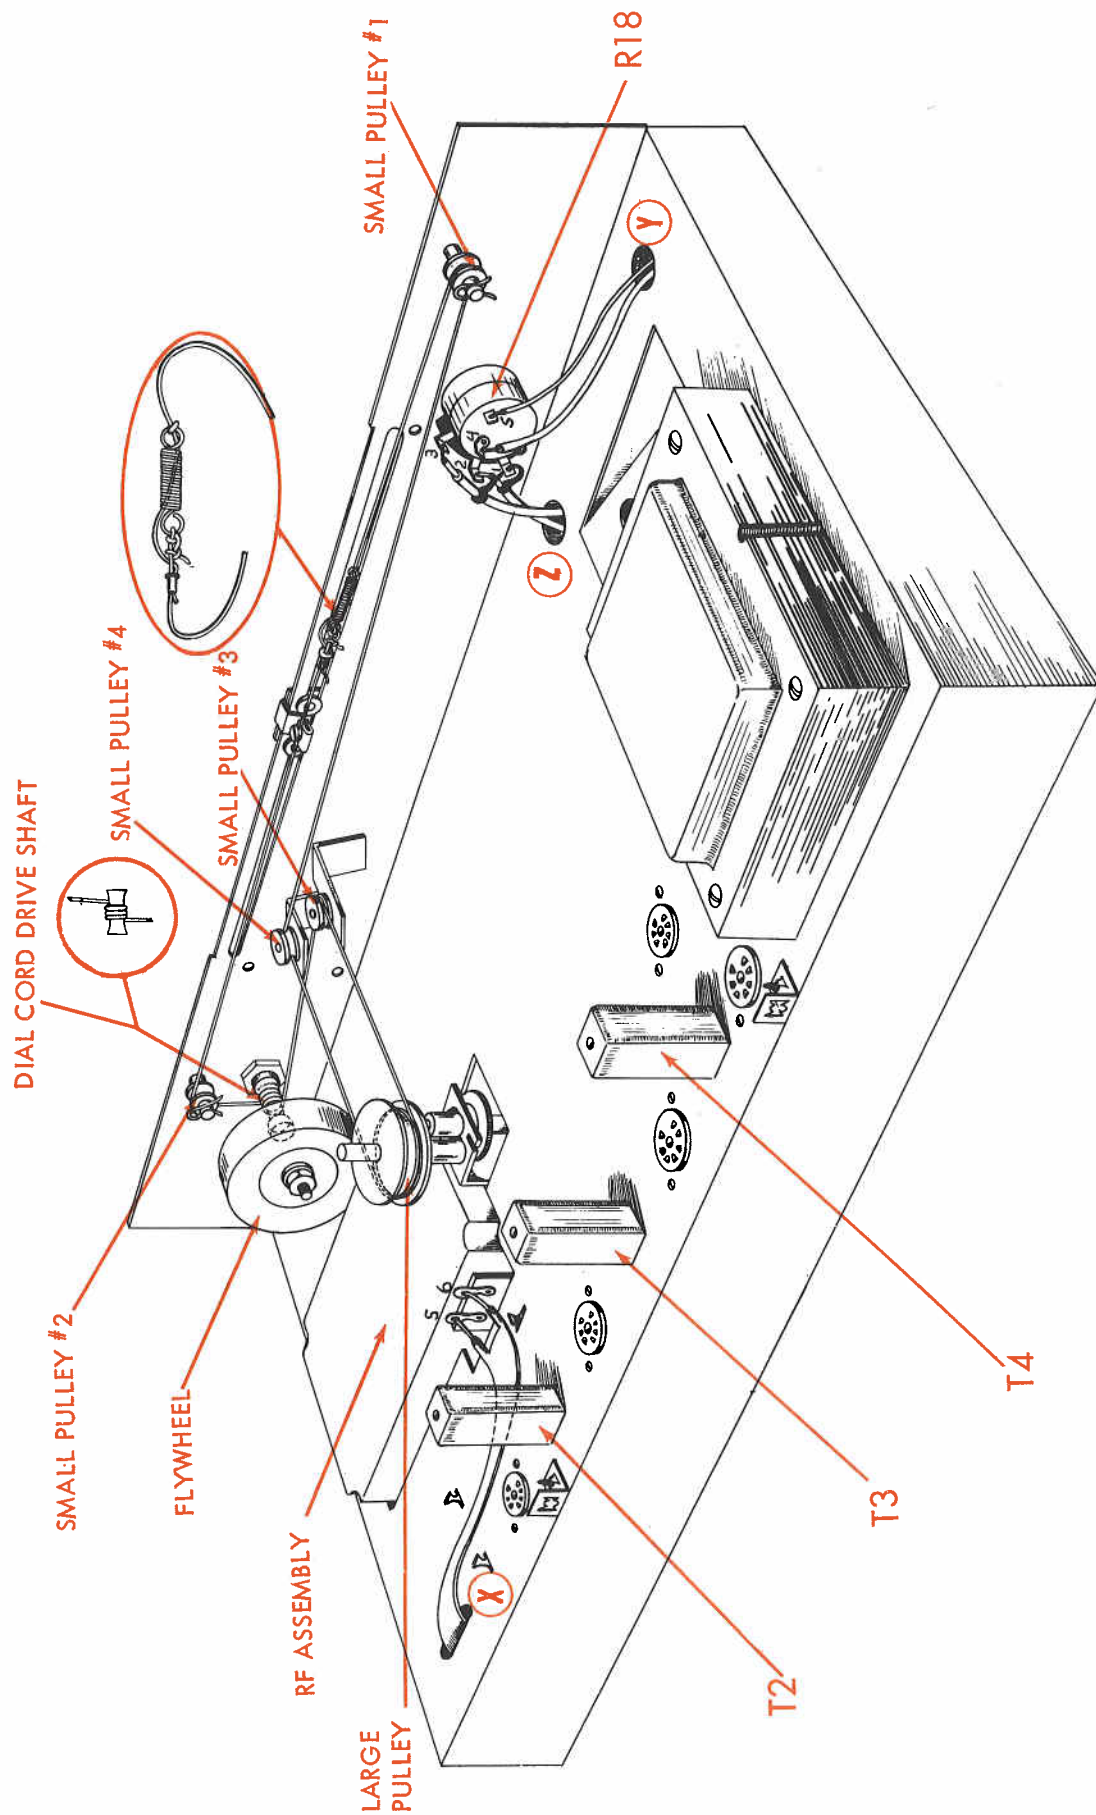

Fig. 7
1. (✓) Fig. 7. Connect one lead from hole "Y" to R18-5 (S) and the other lead to R18-4 (S).
2. () Fig. 7. Connect the inner conductor of the grey single conductor cable emerging from hole "Z" to R18-3 (S). Connect the outer shield braid to R18-1 (C).
3. (✓) Fig. 7. Connect the inner conductor of the black single conductor cable emerging from hole "Z" to R18-2 (S). Connect the outer shield braid to R18-1 (S).
4. (✓) Fig. 7. Connect one lead of the twin lead cable emerging from hole "X" to pin 5 (S) on the RF assembly and the other lead to pin 6 (S). Do not overheat these terminals.
5. (✓) Fig. 7. Turn "front-end" (RF assembly) drive shaft maximum counter-
6. (✓) Fig. 7. Place 1/4" 1 D fibre washer on "front-end" (RF assembly) drive shaft. (See Fig. 1)
7. (✓) Fig. 7. Place large pulley (1" dia.) on drive shaft loosely over fibre washer. Mark position of set screw hole on top surface of pulley. Do not use force as this may cause damage to the drive gear. Do not tighten pulley set screw as the pulley must rotate freely for dial cord threading and tuning eye carriage setting. (See Fig. 1)